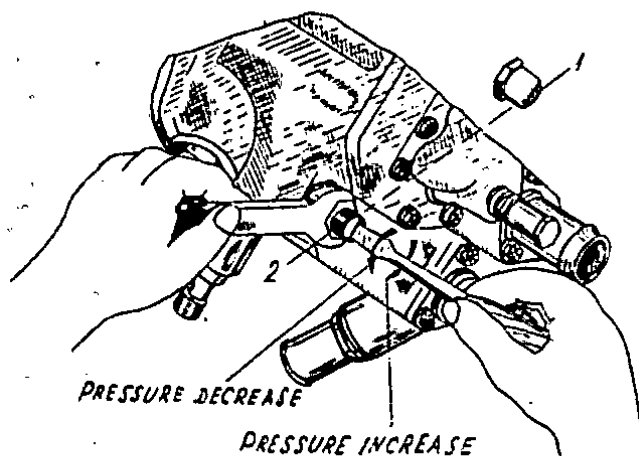

Fig. 15. Oil pressure adjustment
- a) unlock and unscrew cap 1 of the reducing valve adjusting screw (Fig.15);